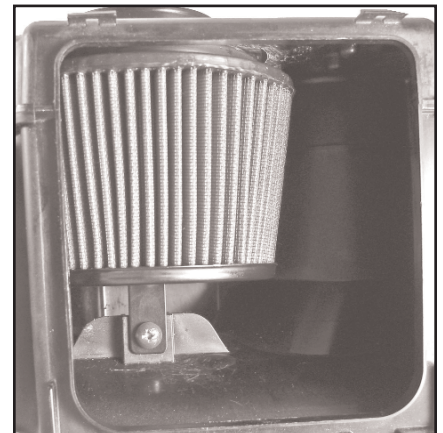

Fig. 3
7. Tighten the screw. (Fig. 3)